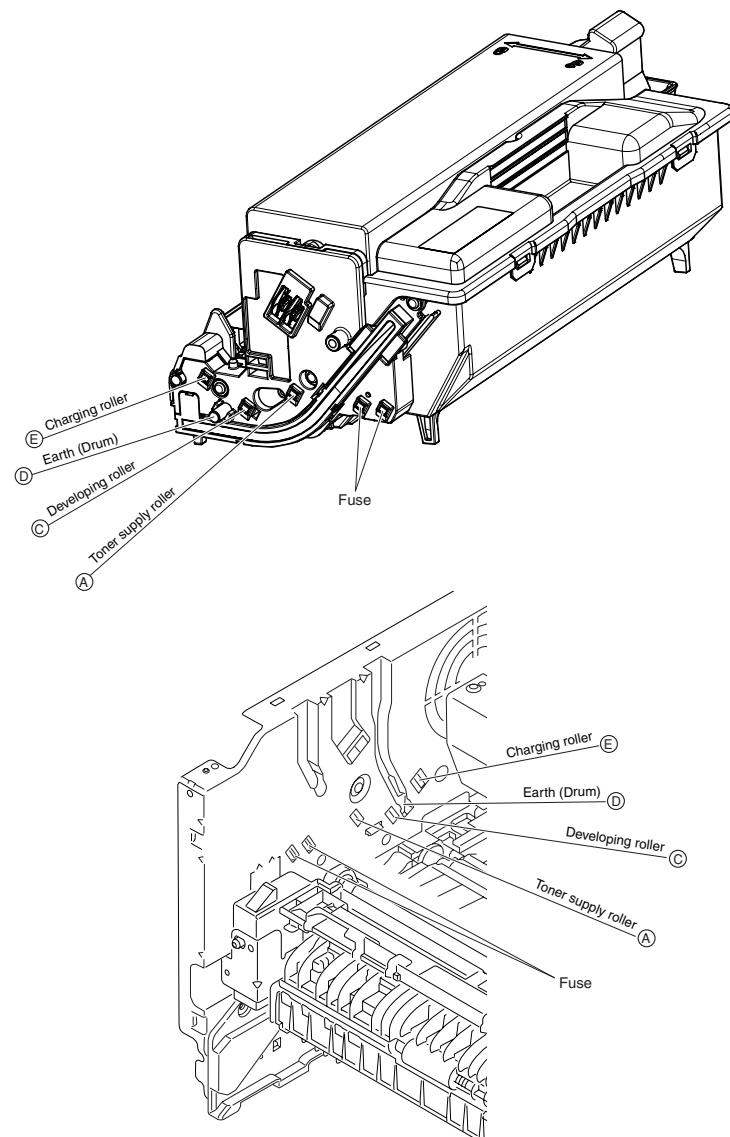

Figure 2-3
- Yes Are the contact of the developing roller and toner supply roller of the image drum cartridge appropriately connected to the contact assembly? (See Figure 2-3 Ⓐ and ⓒ)
③ White paper is outputted
- Yes Is the image drum cartridge appropriately connected to the earth contact? (See Figure 2-3 ④)
- ④ Vertical black belt/ Black line